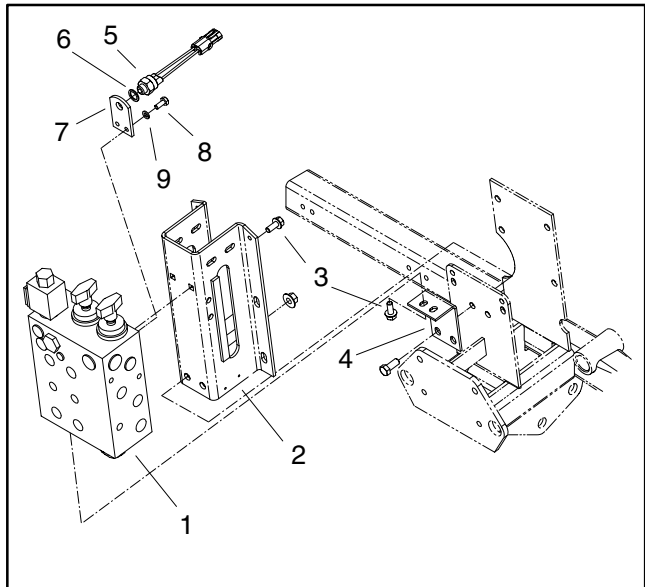

Figure 45
### Removal (Fig. 45)
3. If necessary, the hydraulic manifold can be removed (Figure 45):
### Installation (Fig. 45)